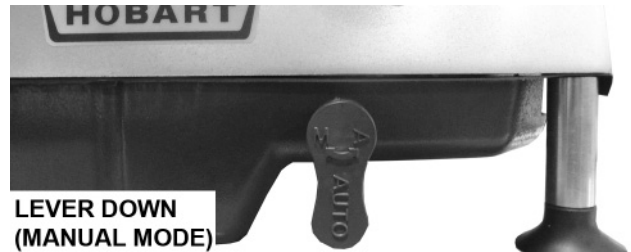

Fig. 4
- Ensure Lever (Fig. 4) is in the down position for manual mode.
**NOTE:** The OFF button can be pressed to stop the slicer. The Product Tray will stop moving immediately. Lower the Lever (Fig. 4) and pull the Product Tray toward the operator to the home position.